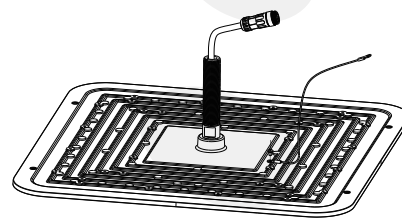

Figure 2
2. Screw the safety rope to heatsink by screwdriver. (Figure 2)